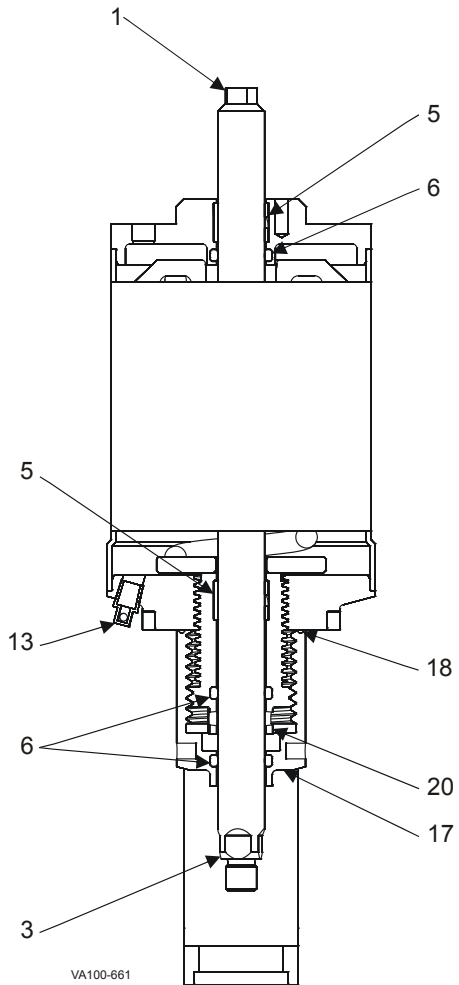

Figure 41: 4", 5" and 6" Air-to-Lower, Adjustable-Spring Actuator
4. Using wrenches on the upper and lower wrench flats, unscrew and remove the upper stem (Figure 41, item 1). **Do not remove the lower stem (item 3) as it locates an internal support washer.**
5. Remove and inspect the indicator area stem o-ring (item 6). Remove the worn o-ring seal. Coat the new o-ring seals with Dow Corning® #7 Silicone Lubricant or equivalent, and replace them.
6. Inspect and replace the PTFE guide bearing (item 5) in the indicator area as needed.
8. Once secure, screw in the adjustment screw (item 20) until it is held by threads (not in its final position). Refer to Adjustable-Spring Actuators: Pressure Setting (Table 2 on page 15) for setting it to the desired loading pressure.